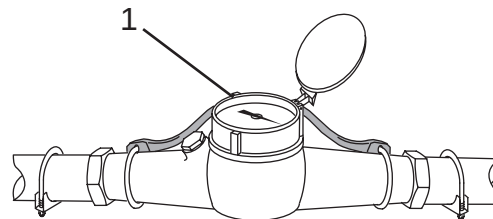

Figure 98
2. Reset the display by turning the collar (Figure 98, Item 1) counterclockwise until the pointer is aligned with "0".